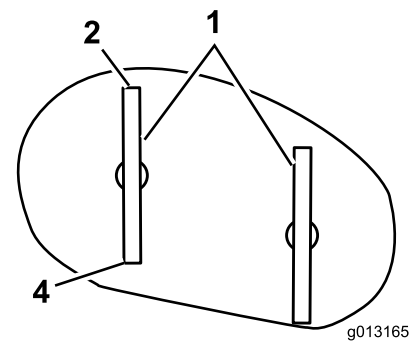

Figure 46
- Measure the distance between the front tip of the left blade and the flat surface (Figure 46).
- Move the height-of-cut lever to the middle (4) position. Carefully rotate the blades front to rear (Figure 46).